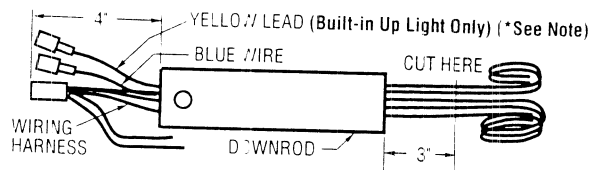

Figure 3
- Push the wiring harness connector (supplied with the SW375 receiver) and the connectors on the blue wire (supplied with the control) and yellow wire (supplied with fans containing built-in Uplights) through the hanger pipe until they extend about 4" out of the pipe (Figure 3).